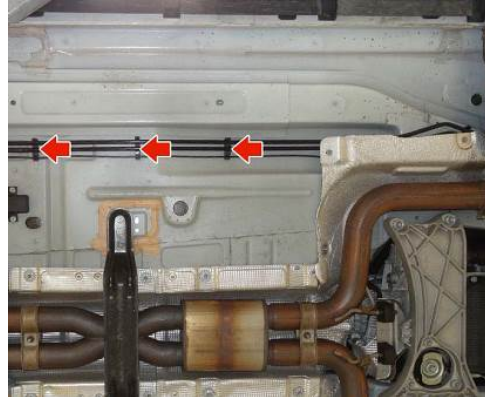

Fig.12
14. Unclip the fuel delivery line from the 3 fastening clamps. (Fig.12)